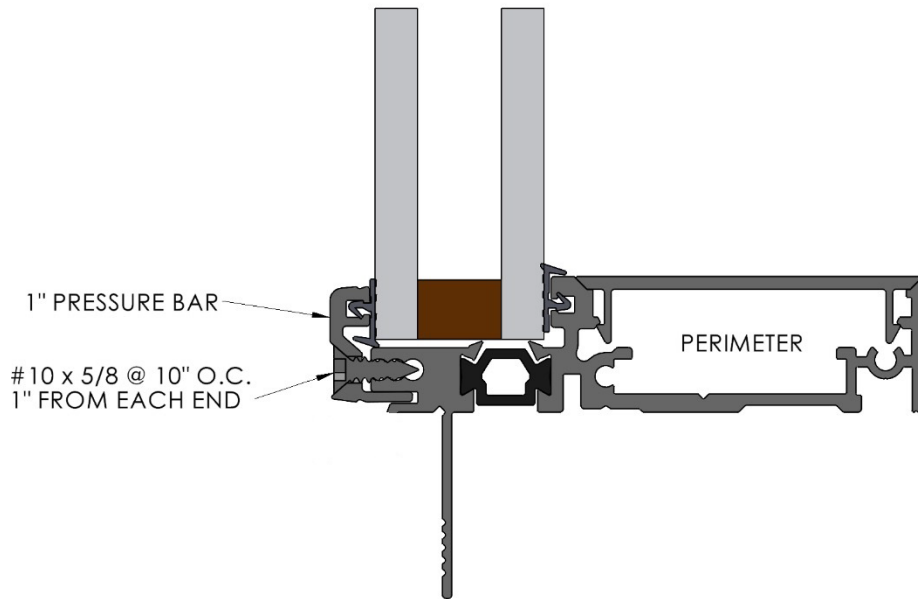
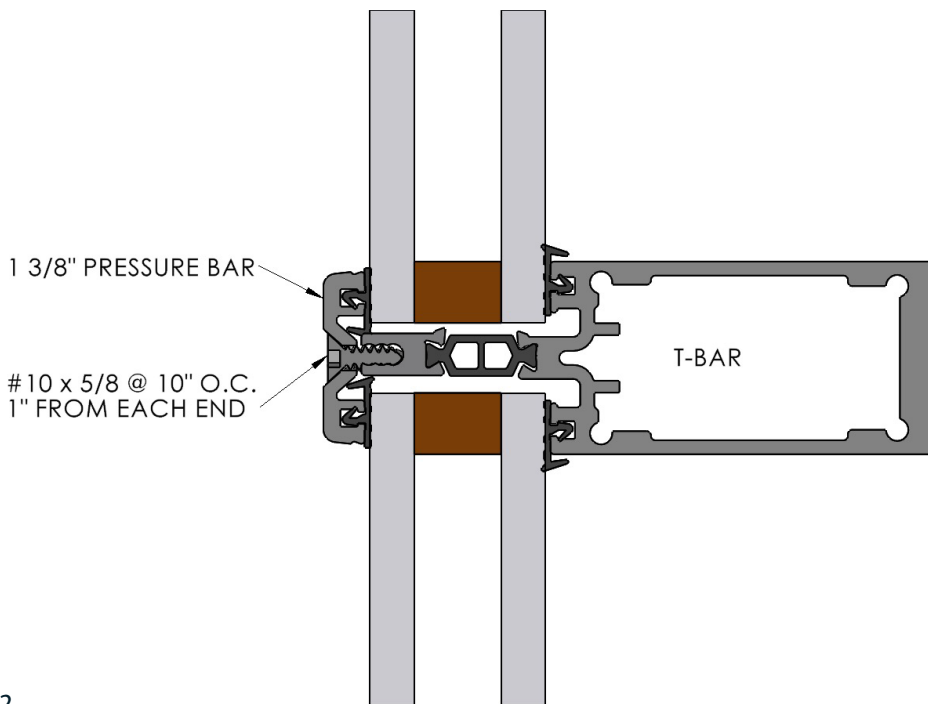

Figure 21
Figure 22
17. Locate the correct pressure bar for each edge. Each pressure bar should be approximately 1.5" shorter than the each of the IG unit. The perimeter pressure bars have a lip that inserts into the perimeter frame and a single weather strip. (See Figure 21). The vertical and horizontal T-bars have two weather strips. (See Figure 22).